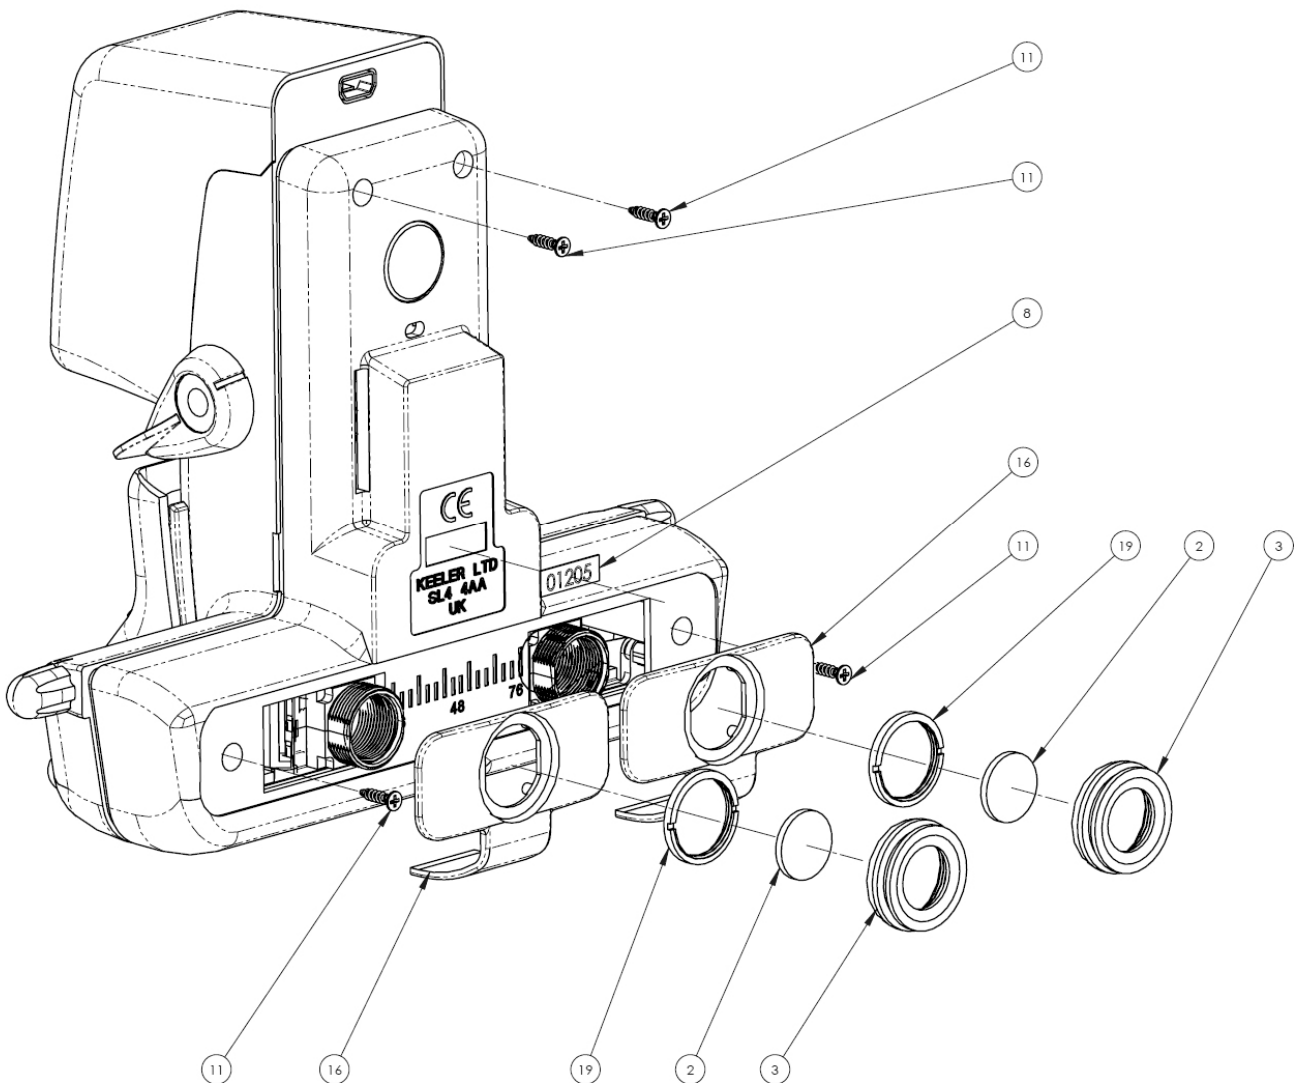

Figure 2
5. Turn the Optics Head over and slide the Eyepieces to the middle to reveal 2 off M2 x 8 Csk PT Screws (Figure 2 - 11). Remove these screws.
6. Remove 2 off M2 x 8 Csk PT Screws (Figure 2 - 11) from the top of the unit above the Browbar Mount.